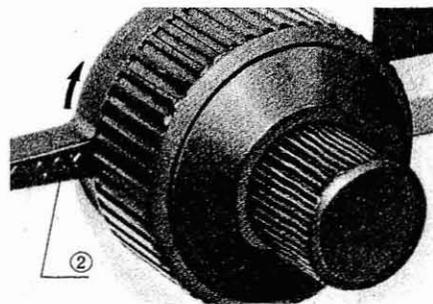

Fig. 19
This lever ② is provided to prevent possible contact between specimen and objective as well as to simplify coarse focusing. (Fig. 19) The lever is locked after coarse focus has been accomplished. This prevents further upward travel of the stage by means of the coarse adjustment knobs, and automatically provides a limiting stop if the stage is lowered and then raised again. The pre-focusing lever does not restrict fine focusing.